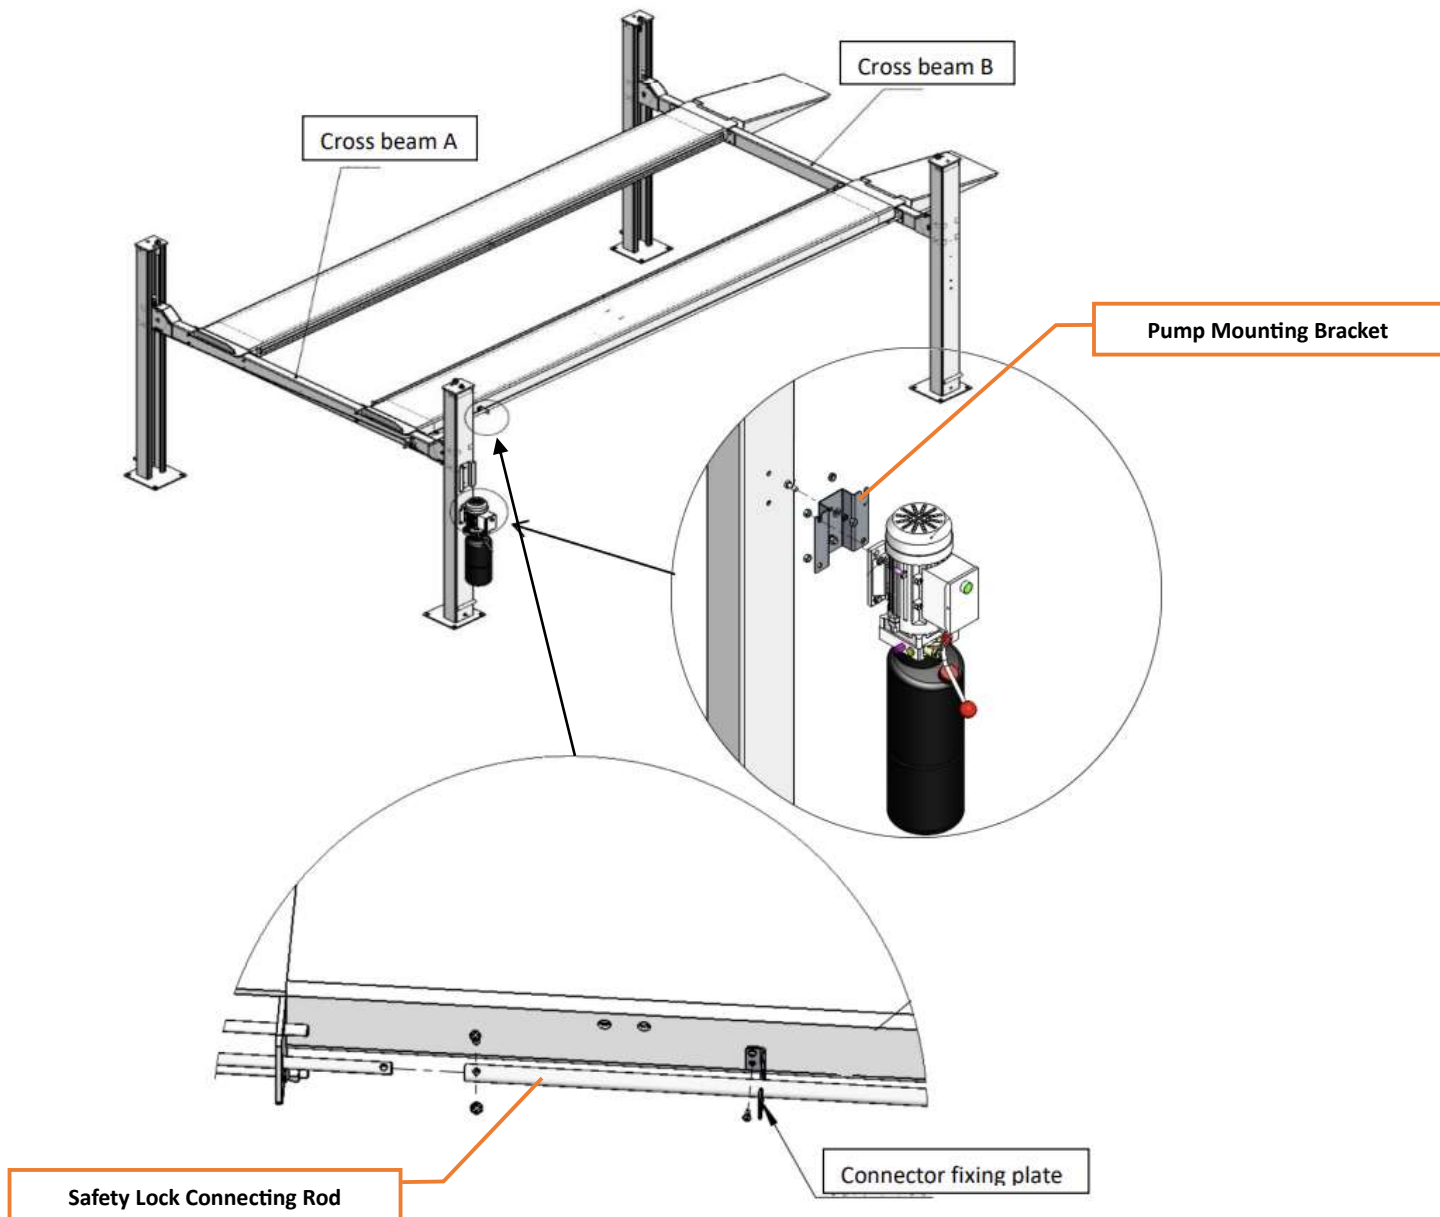

Figure 19
- *Make sure to pick the correct length bolts to install the platforms. (See Fig.19)*